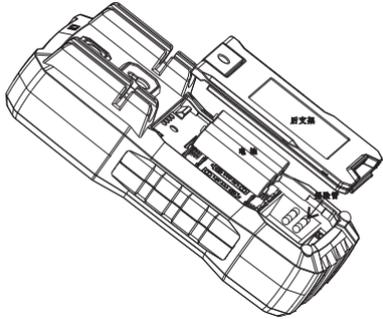

Figure 9
11. Replace the battery or fuse (Figure 9)
Refer to Figure 9 and follow these steps: